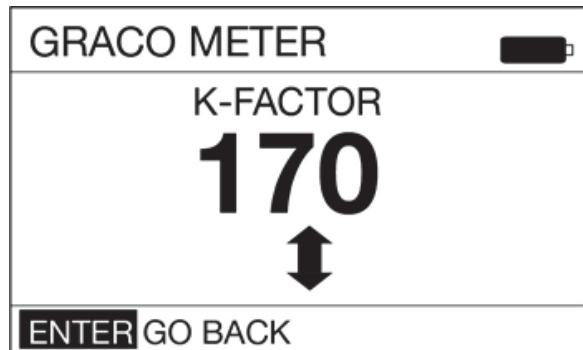

FIG. 21
5. Be sure ENTER is highlighted in the lower left corner of the display as shown in FIG. 21. Press the center ENTER button on the keypad to save the new calibration factor.